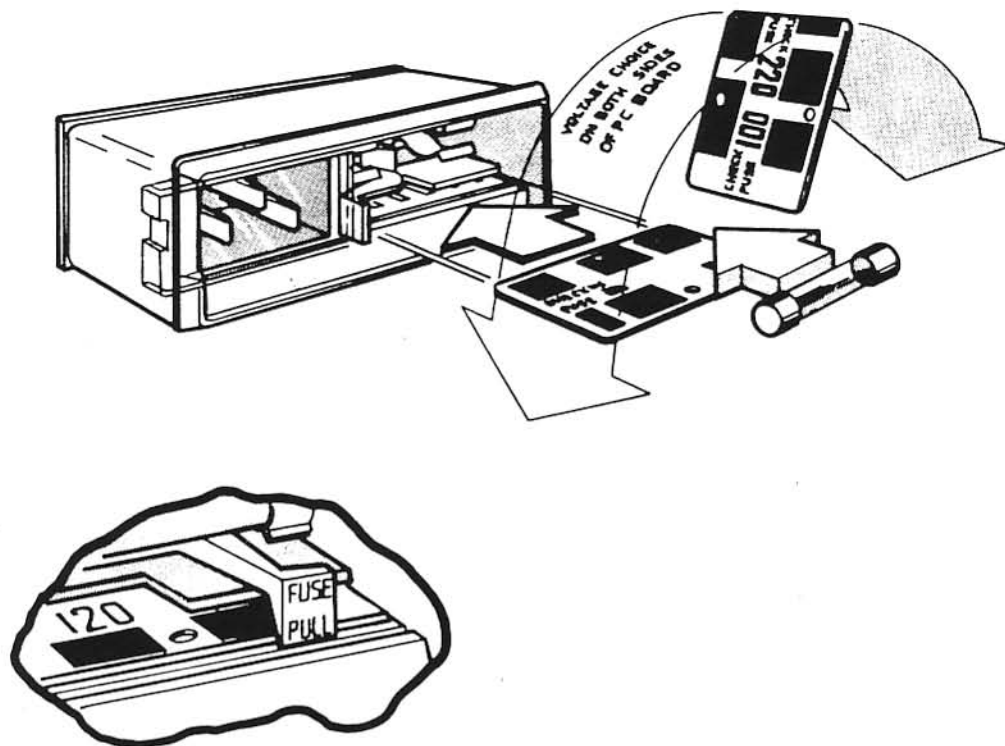

FIGURE 2-1. AC-INPUT RECEPTACLE AND FUSE ASSEMBLY
3. Remove the voltage-select card that is located directly below the fuse holder, inside the assembly. Reinsert this card such that the proper line voltage is on the upper left side of the card. (See Figure 2-1.)